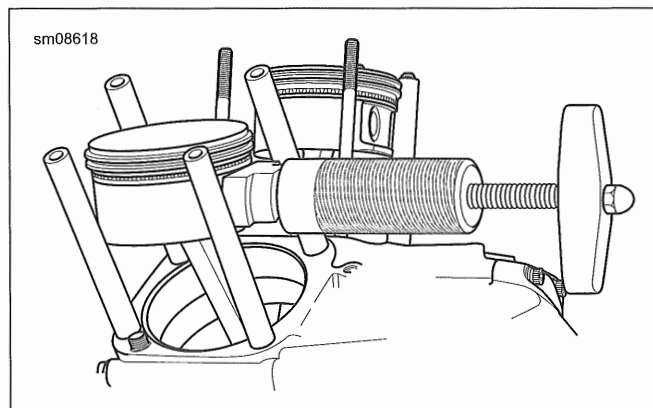

Figure 4-40. Remove Piston Pin
3. See Figure 4-40. Remove piston.